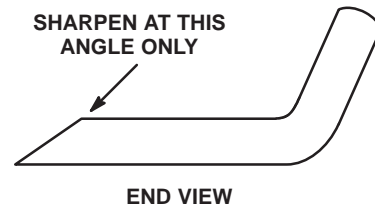

Figure 39
3. Inspect cutting edges of all blades. Sharpen the cutting edges if they are dull or nicked. Sharpen only the top of the cutting edge and maintain the original cutting angle to make sure of sharpness (Fig. 39). The blade will remain balanced if same amount of metal is removed from both cutting edges.